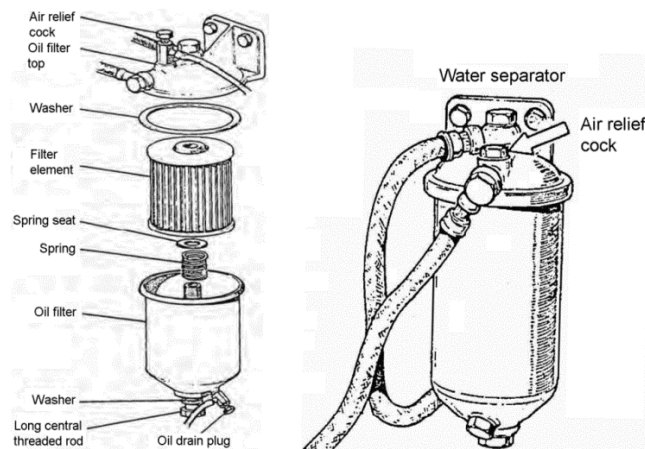

Figure 1-24 Fuel Filter and Water Separator
- (f) Assemble the fuel filter in sequence as follows (See Figure 1-24):